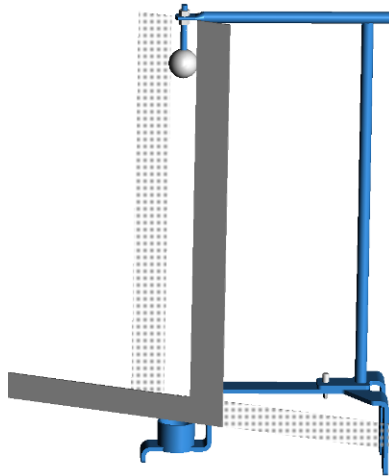

Figure 26: Squaring the Ball Target to the Mounting Ring
6. Place the square on the sensor ring as shown in **Figure 26** and follow the procedure in Step 5.